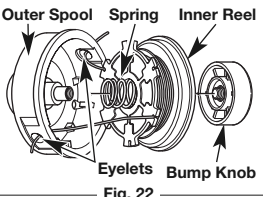

Fig. 22
- Pass the two line ends through the eyelets in the outer spool. Place the spring inside the inner reel. Insert the inner reel into the outer spool. Push the inner reel and outer spool together (Fig. 22).